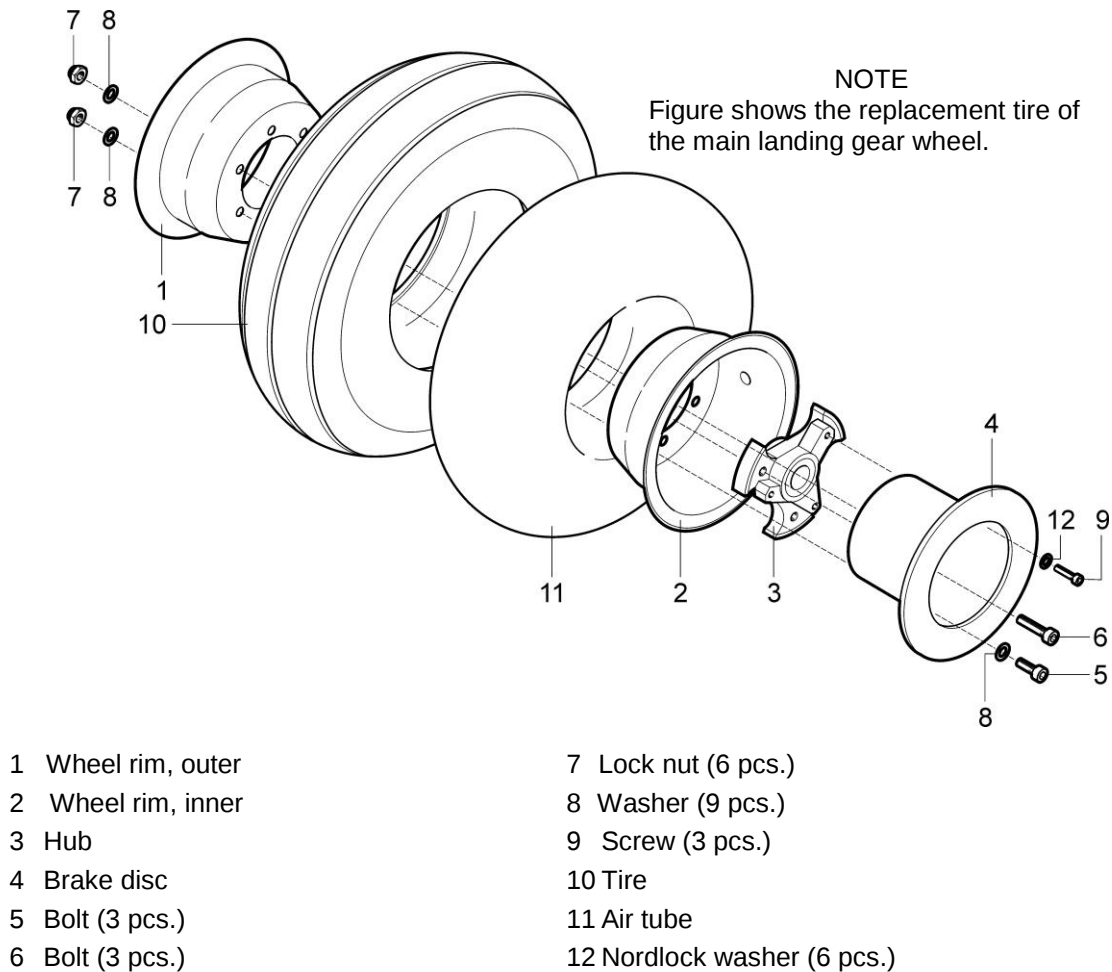

Fig. 8-17: Tire change
- (e) Unscrew the nuts (7, Fig. 8-17), remove the washers (8) and the bolts (5; 6).
- (f) Set apart both halves of the rim (1; 2) and remove the tire (10) with the air tube (11).
- (h) Put the air tube (11) into the tire (10) and inflate it slightly.
- (i) Put the other half of the rim on this unit. Join both halves of the rim with the bolts (5; 6), washers (8) and the nuts (7) – torque value 11.3 Nm (100 in lbs).